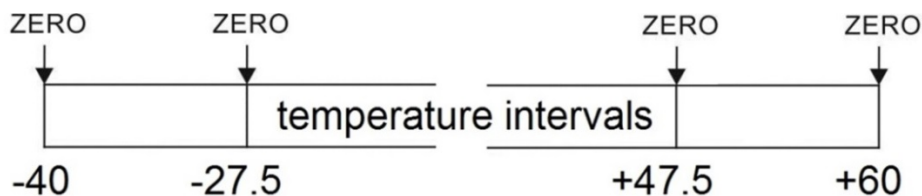

Fig. 15. Scheme of adjusting the temperature coefficients
5. When temperature is stable, for each of 9 points of temperature range send <ZERO> command, by which a current temperature ADC value and ratio S_t value (see Table 17) are written to sensor memory (see Fig. 15).